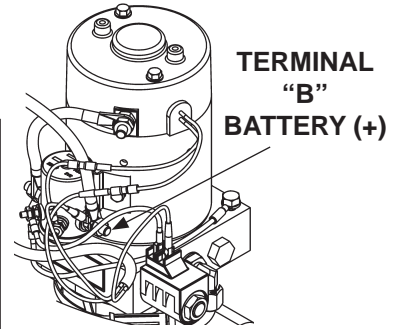

FIG. 48-1
1. Use voltmeter to verify power is being supplied to solenoid terminal "B". Recharge the battery if voltmeter indicates less than 12.6 volts (**FIG. 48-1**).